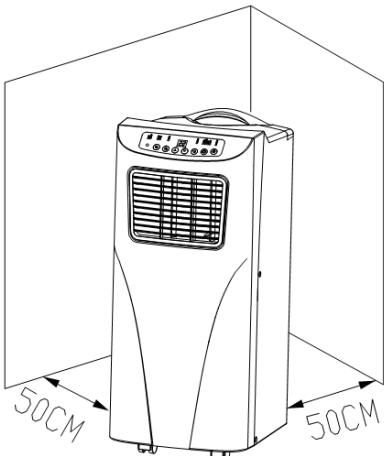

Figure 4
- 1) Move the machine with installed heat pipe before the window, and the distance between the body and walls or other objects shall be least 50 cm (as shown in Fig.4)